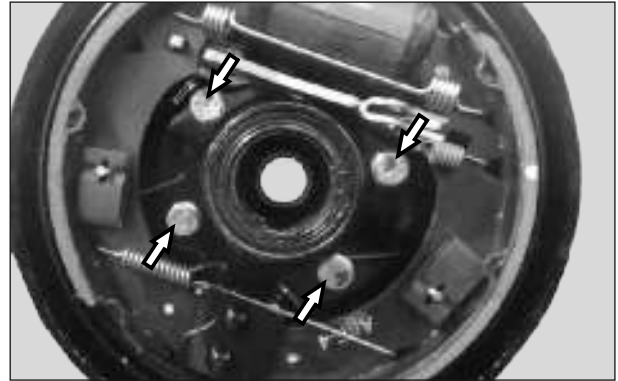

Fig. 5.27
- Loosen and remove 4 nos. Hexagonal screw (M8 X 16) from back plate complete front. (Fig. 5.27)